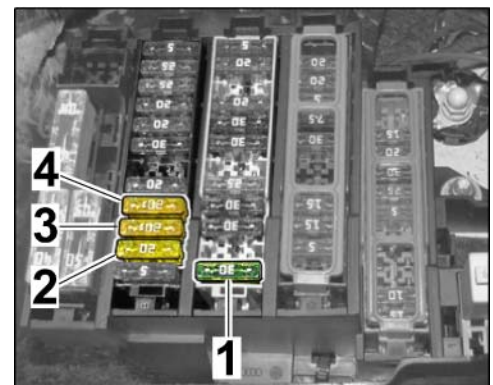

Figure 13
2.7 Secure towbar system as shown in Figure 13 (⇒ *Figure 13*).